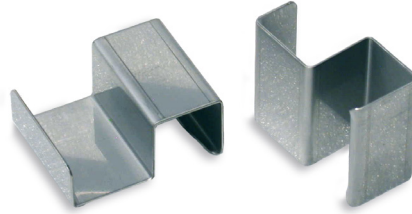

Figure 10, Drain Tray support brackets
1. Find the Drain Tray support brackets (Figure 10)